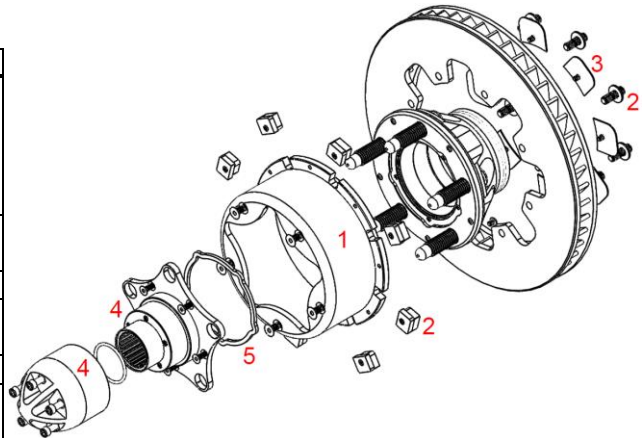

Figure 1 - Shown with straight drive flange, rear hat
1. Insert your 8 T-nuts into the slots in the rotor hat. There are two sizes of T-nuts. The narrow hat and the 20575 hat take small (.465") t-nuts. All other hats take standard (.715") T-nuts. They must be oriented as in *figure 1*, with the larger part of the T on the outward face of the hat and the threaded holes favored toward the center.